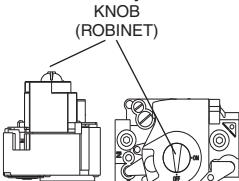

Figure 1
6. Move the gas control knob clockwise ↗ to "OFF". (See Figure 1)
7. Wait five (5) minutes to clear out any gas. Then smell for gas, including near the floor. If you smell gas, **STOP!** Follow "B" in above information. If you don't smell gas, go to the next step.
8. Move the gas control knob counterclockwise ↘ to "ON". (See Figure 1)
4. Move the gas control knob clockwise ↗ to "OFF". Do not use force. (See Figure 1)